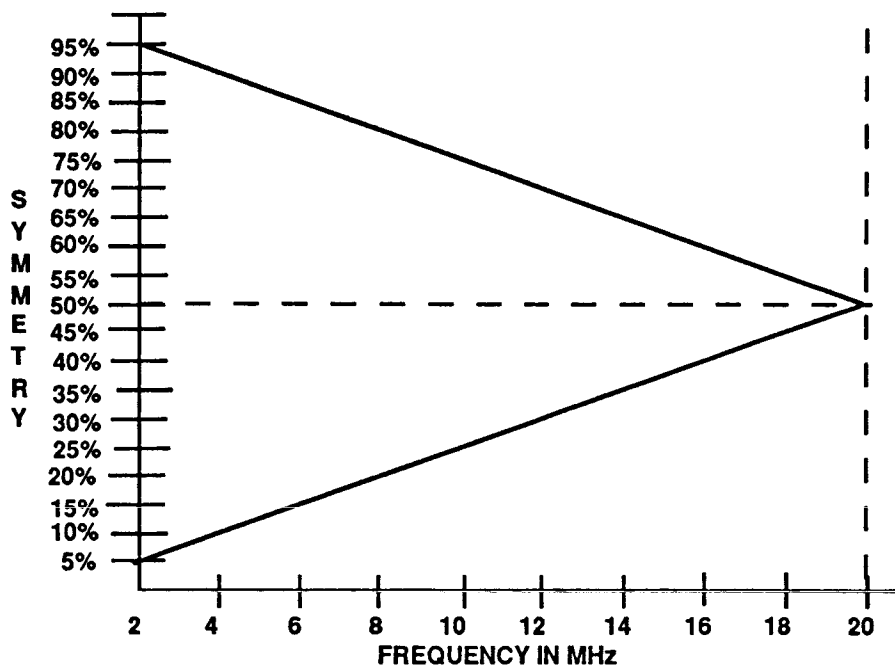

Figure 3-10. 2MHz to 20 MHz Symmetry
Variable symmetry allows the duty cycle of the three standard function (sine, triangle, and square) to be varied from 5% to 95% in 1% increments (≤ 2 MHz). Use variable symmetry with square waves to produce pulses. Use variable symmetry with triangles to produce ramps. Between 2MHz and 20MHz the minimum and maximum symmetry values decrease linearly to 50% at 20MHz; see figure 3-10. For example, at 10 MHz, the symmetry range is decreased to 25% to 75%. The symmetry of the Sync Output will track the function outputs.
1. **Select Symmetry.** Press the SHIFT key (31) and then the SYMMETRY key (7) to display the current symmetry value.
2. **Change the Symmetry.** Use the keypad (39) or knob (41), if enabled (ENABLE indicator (40) lit), to change the symmetry. The knob increments or decrements the value and automatically enters the new value. When using the keypad, enter the actual value. Symmetry values are 5% to 95% in 1% increments unless limited by frequency; see figure 3-10.